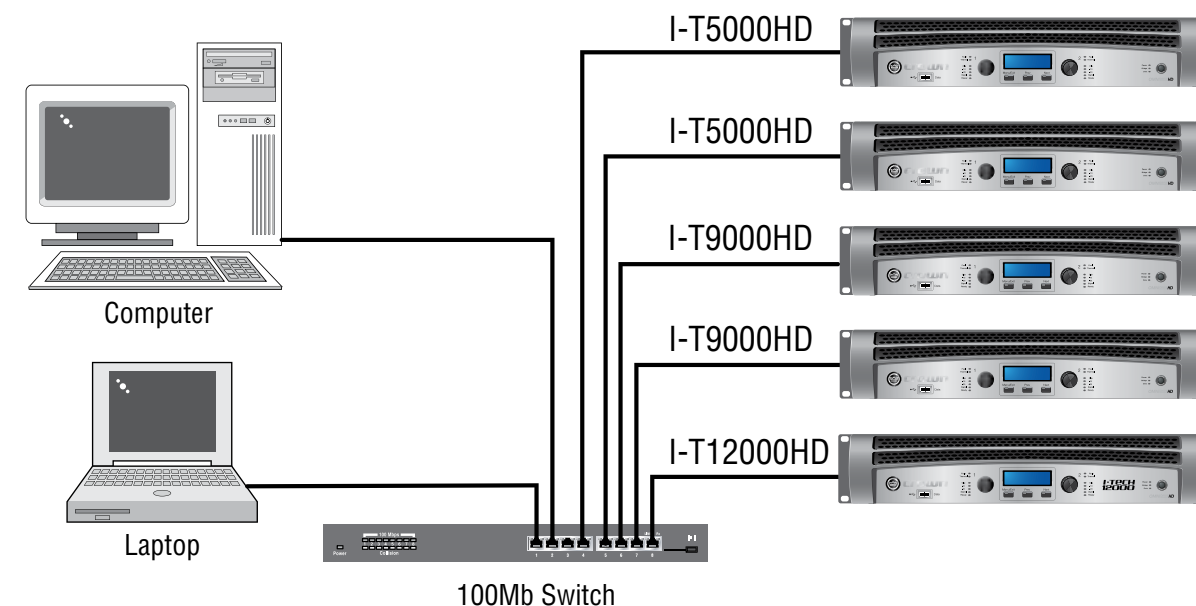

Figure 9.1 A HiQnet Network
You need a way to send computer commands to several audio devices at once. This is done with an **Ethernet switch**, which is something like an audio Y cable or distribution amp. The computer, and all the audio devices, connect to the switch as in Figure 9.1.
**HiQnet** protocol lets you control and monitor certain Harman products (including Crown) on an Ethernet network. Figure 9.1 shows a typical HiQnet network.
(100Base-T) Fast Ethernet (100Base-T) runs at 100Mbps (Megabits per second). It uses a hub or network switch to interconnect all network nodes (components). This forms a star network (see Figure 9.1). In a star network, all PCs are connected to a centralized hub or switch. Messages are sent from the originating PC to the hub, which then transmits the message either to the whole network or, if a switched hub (network switch) is used, to the destination device only.